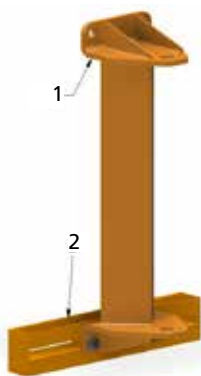

fig.35
1. Assemble on bracket 1 the other front bracket (fig. 35).